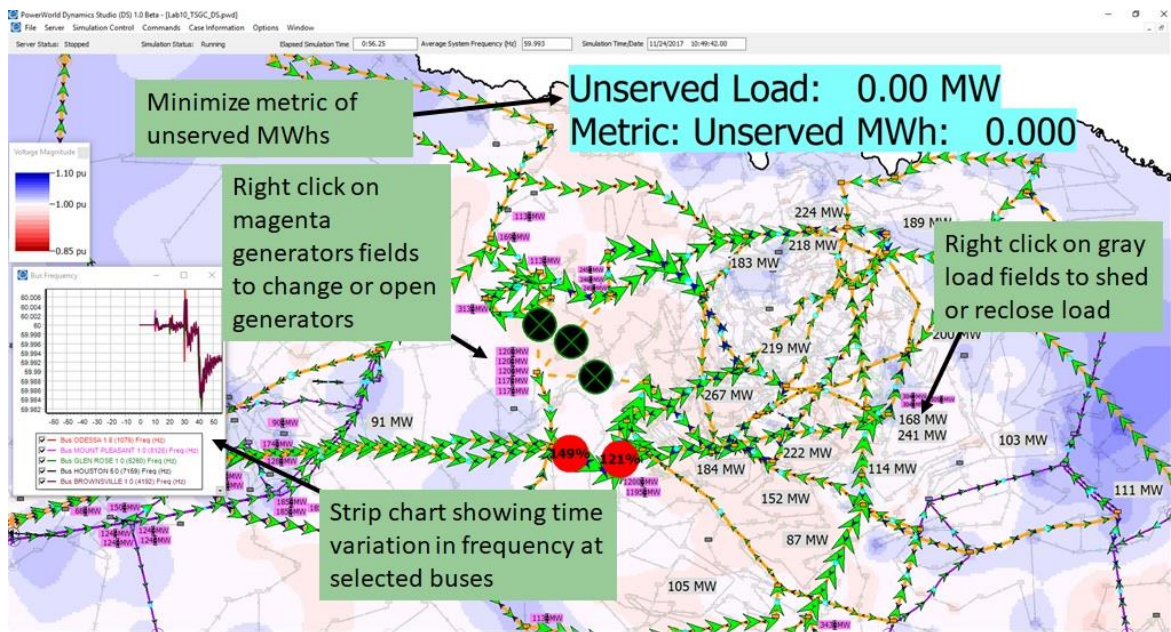

Figure 6: DS TSGC Scenario Oneline
1. Start PowerWorld DS, and open the Lab10\_TSGC\_DS case. This runs a real-time simulation on a modified version of the 2000 bus TSGC system. The scenario here is again a tornado moving through the system, this time by a 500 kV substation west of Fort Worth, Texas. Starting at ten seconds of simulation time, the tornado rapidly outages three 500 kV lines. Your job is again to prevent the system from experiencing a blackout by either changing generation (which may involve opening the generator) or shedding the least amount of load. The oneline for this system is shown in Figure 6. If an initial contour is not shown, right-click on a blank portion of the oneline and select **Contouring**. This displays the Contour Options dialog; click **OK** to add the contour.